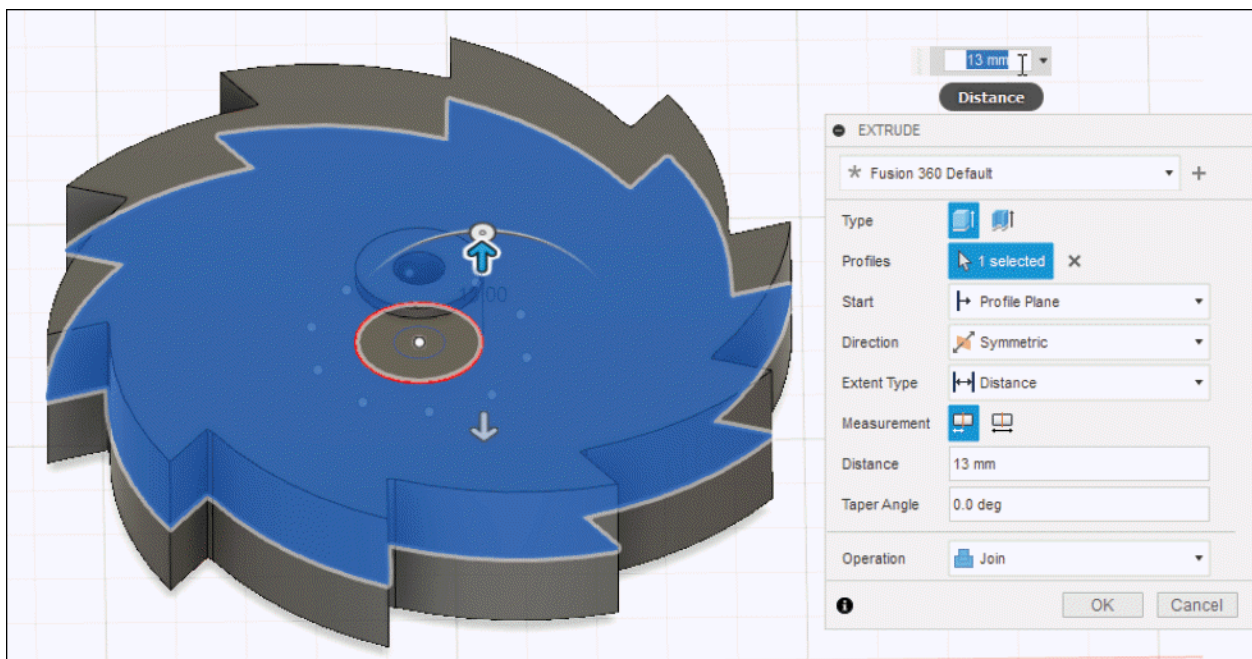

Figure-33. Preview of second extrusion
- Click in **Distance** edit box of **EXTRUDE** dialog box and specify **13** as height of extrusion; refer to Figure-33.